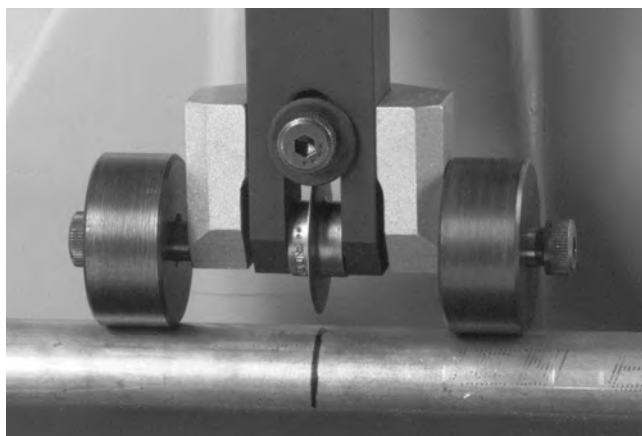

Figure 9 – Cutter Wheel Support Rollers Contacting Tubing
4. Lower the handle until the cutter wheel support rollers contact the tubing (Figure 9). Align the cutter wheel with the mark on the tubing.